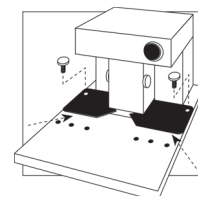

Fig. 4
- 2 - Install the optional corner rounding card guide and adjust with two of the "thumb-screws". [Figure 4]